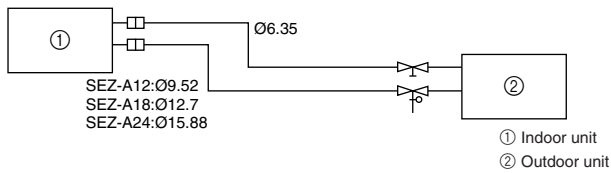

Fig. 5-2
- This unit has flared connections on both indoor and outdoor sides. (Fig. 5-2)